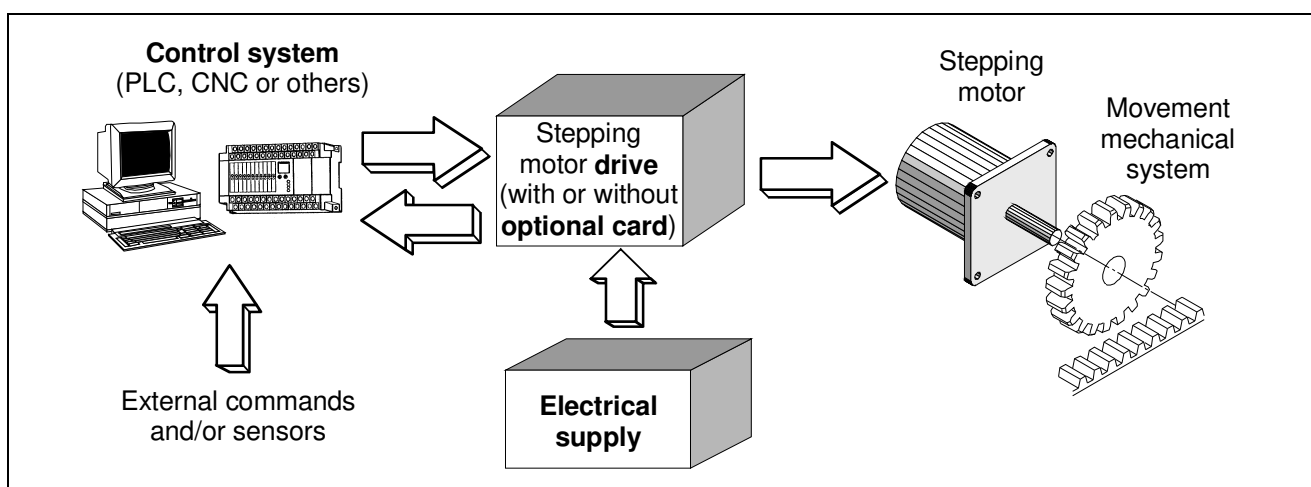

Fig. 1
1.2 - For the purposes of this manual the terms used assume the meaning below described (fig. 1).